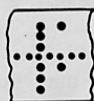

FIGURE 74.
- A. *Thin spaces may be inserted OVER each spaceband within the line* (see Figure 74).